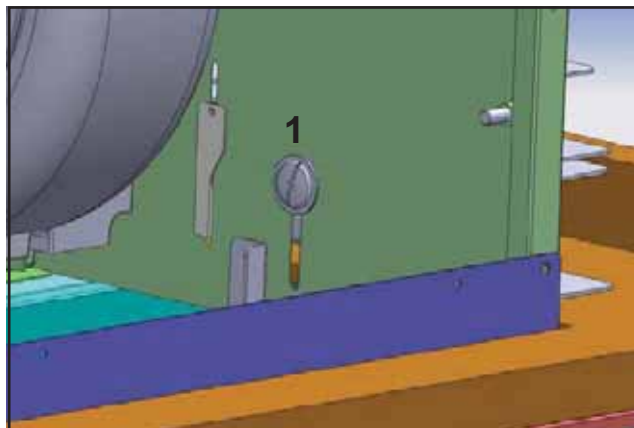

Fig.8
7) From inside the hood, secure (1) M4x8 screw into each lower installation bracket. The position of this screw is adjustable to accommodate various cabinet bottom thicknesses, Fig.8. Do not fully tighten screw yet.